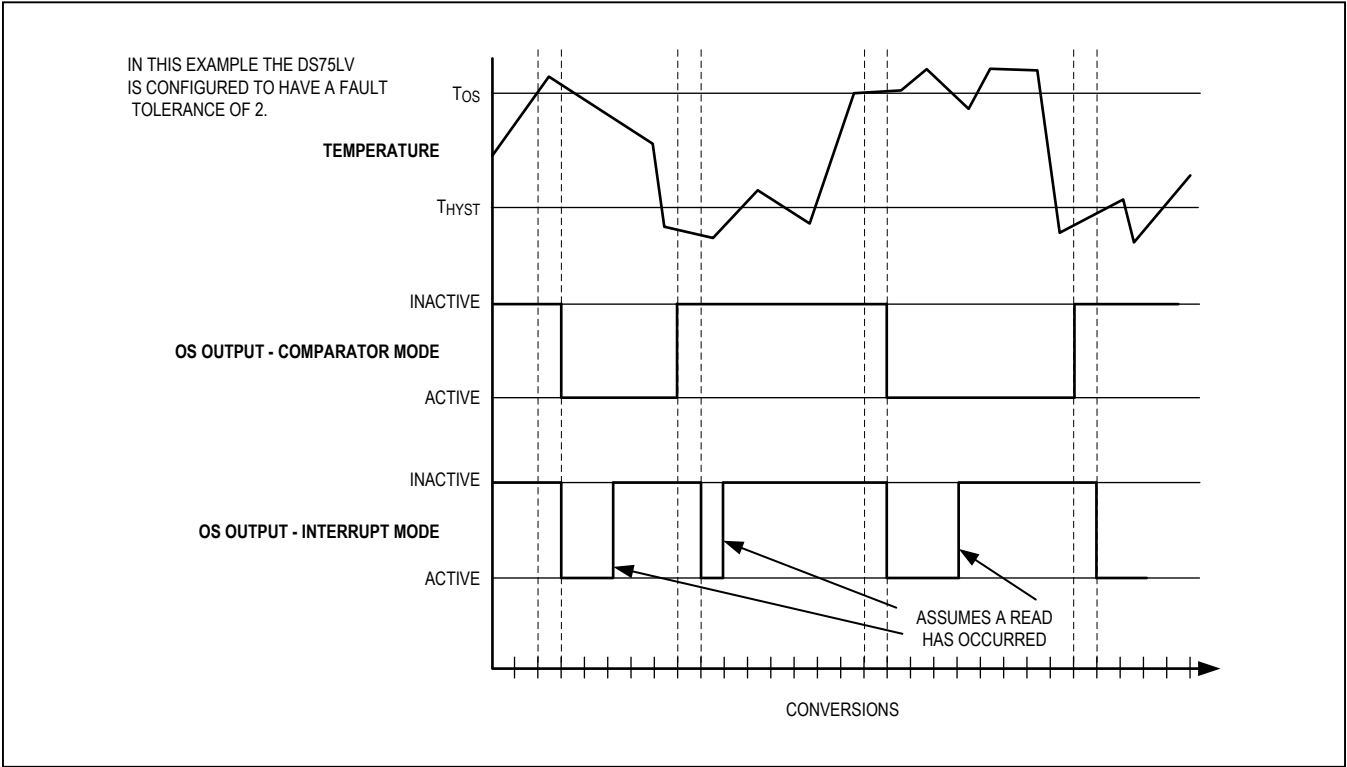

Figure 4. OS Output Operation Example
Comparator Mode: When the thermostat is in comparator mode, OS can be programmed to operate with any amount of hysteresis. The OS output becomes active when the measured temperature exceeds the T_{OS} value a consecutive number of times as defined by the F1 and F0 fault tolerance (FT) bits in the configuration register. OS then stays active until the first time the temperature falls below the value stored in T_{HYST} . Putting the device into shutdown mode does not clear OS in comparator mode. Thermostat comparator mode operation with FT = 2 is illustrated in Figure 4.
Interrupt Mode: In interrupt mode, the OS output first becomes active when the measured temperature exceeds the T_{OS} value a consecutive number of times equal to the FT value in the configuration register. Once activated, OS can only be cleared by either putting the DS75LV into shutdown mode or by reading from any register (temperature, configuration, T_{OS} , or T_{HYST}) on the device. Once OS has been deactivated, it is only reactivated when the measured temperature falls below the T_{HYST} value a consecutive number of times equal to the FT value. Again, OS can only be cleared by putting the device into shutdown mode or reading any register. Thus, this interrupt/clear process is cyclical between T_{OS} and T_{HYST} events (i.e., T_{OS} , clear, T_{HYST} , clear, T_{OS} , clear, T_{HYST} , clear, etc.). Thermostat interrupt mode operation with FT = 2 is illustrated in Figure 4.